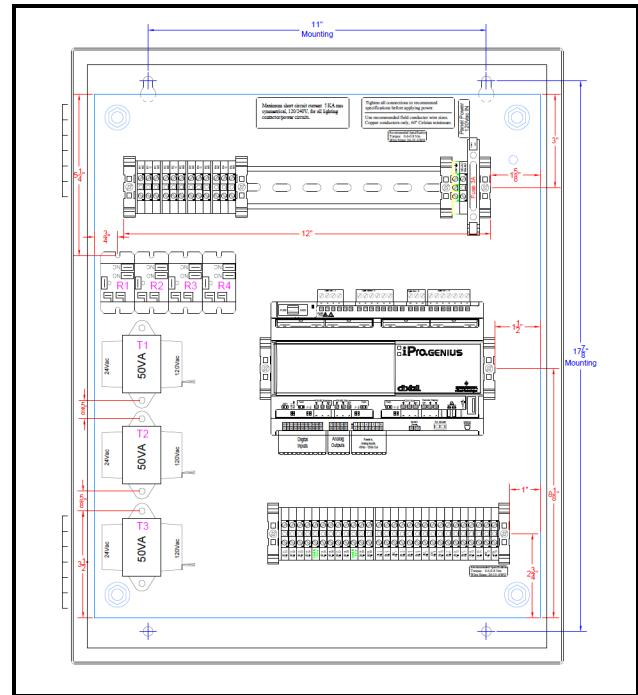

Figure 2-2 - 10 DIN E2E Panel Wiring
The panel has four (4) screw holes for easy mounting. The dimensions of the mounting holes center to center are shown in *Figure 2-2*. The panel mounting screws should be set in a high strength construction material such as a lumber stud, metal stud, or concrete/block/masonry with anchor.